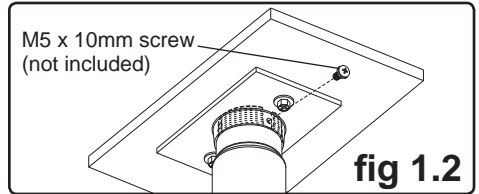

fig 1.2
Align one small hole in the threaded fitting of ceiling plate with slot of adjuster tube (A). Insert and tighten one M5 x 10 mm screw (not included) through the hole of threaded fitting and slot of adjuster tube (A) as shown in figure 1.2.